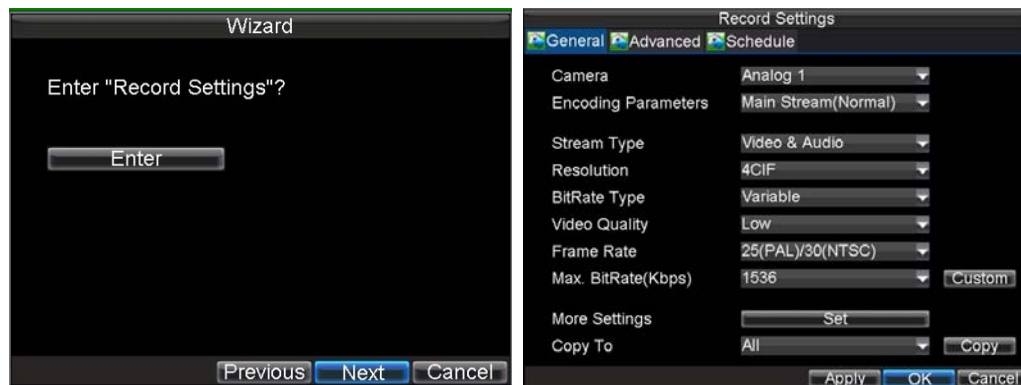

Figure 9. Record Settings
- 2) Click the Enter button to enter the **Record Settings** window, shown in Figure 9. If it does not need to configure the record settings, click Next to continue the Setup Wizard.